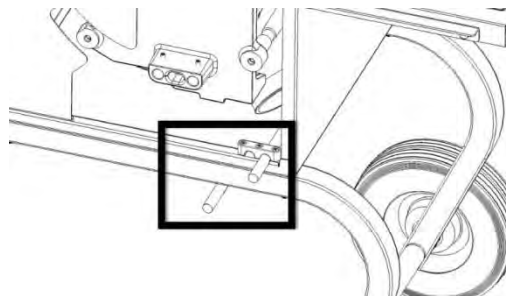

Fig. 2
11. If your CNS saw is mounted on a Mobile Cart as shown in **Fig. 2**, simply route the motor power cord underneath the upper frame of the Mobile Cart.